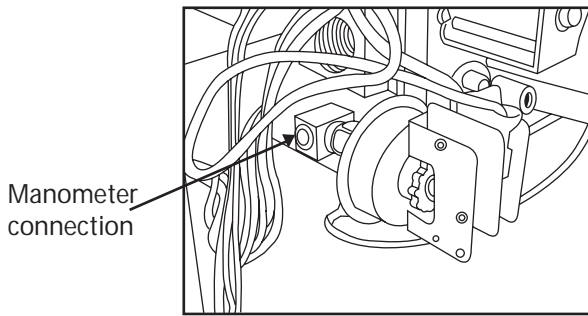

Fig. 12 - LGPS Installed
5. Apply pipe dope sparingly to male end of brass tee. Install propane low gas pressure switch (provided in kit) on male end of the female x female x male tee. Tighten switch finger tight. Use a small open-end wrench on base of pressure switch for final tightening. (See Fig. 12.)